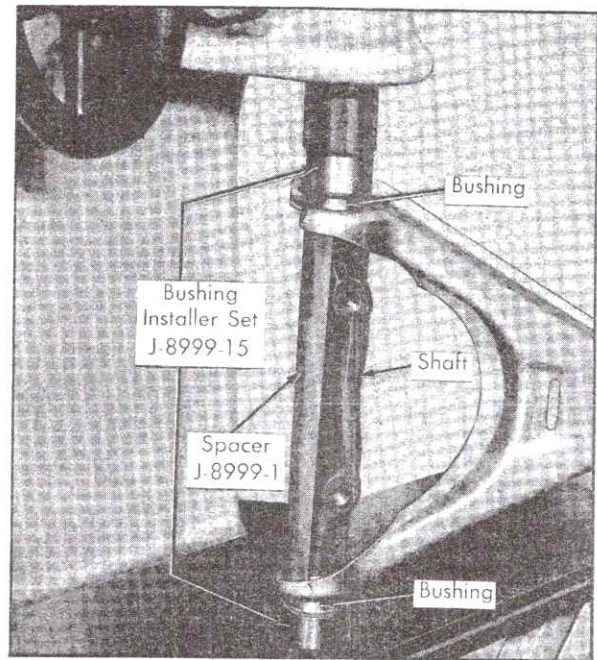

Fig. 3-20 Installing Shaft and Bushing in Upper Arm
2. Insert bushing in one end of arm and place arm and bushing on Bushing Installer, with outer end of bushing seated in Installer, Fig. 3-20.
4. Position bushing on opposite end of shaft, and place the other Bushing Installer, J-8999-16, on top of bushing. Hold assembly in place by exerting slight pressure on arbor press, Fig. 3-20.